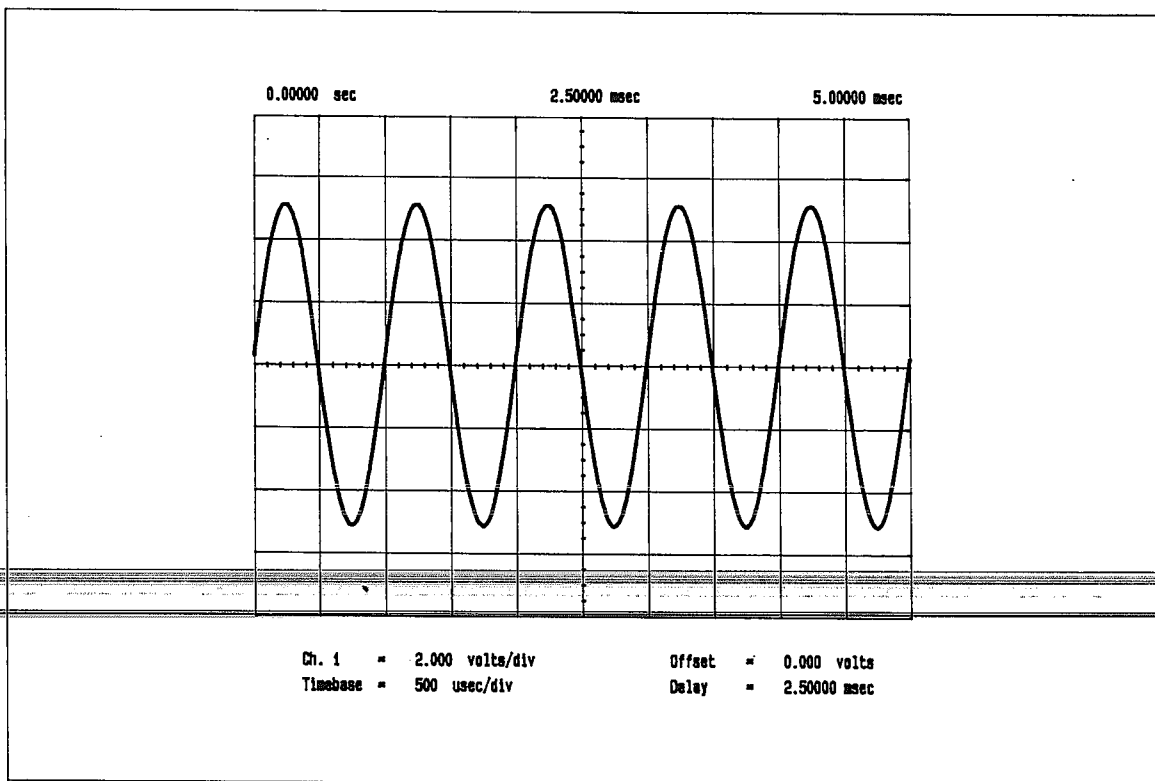

Figure 7-6 Sine Wave
3. Refer to figure 7-6 to verify the correct result.